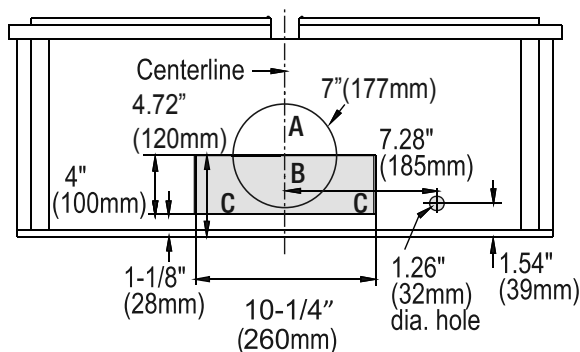
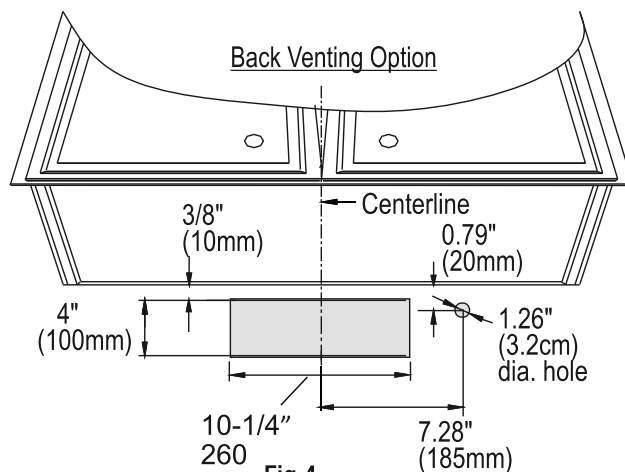

Fig.3
Fig.4
- Determine if your existing venting system is top venting or back venting, and ensure that the openings in the cabinet or wall for the damper and for power access are in appropriate locations and are of appropriate sizes, as per Fig. 3 if it is top vent or Fig. 4 if it is back vent. For top venting option (Fig. 3), if you are using the round damper, the opening should be A and B only. If you are using the square damper, opening should be B and C only.